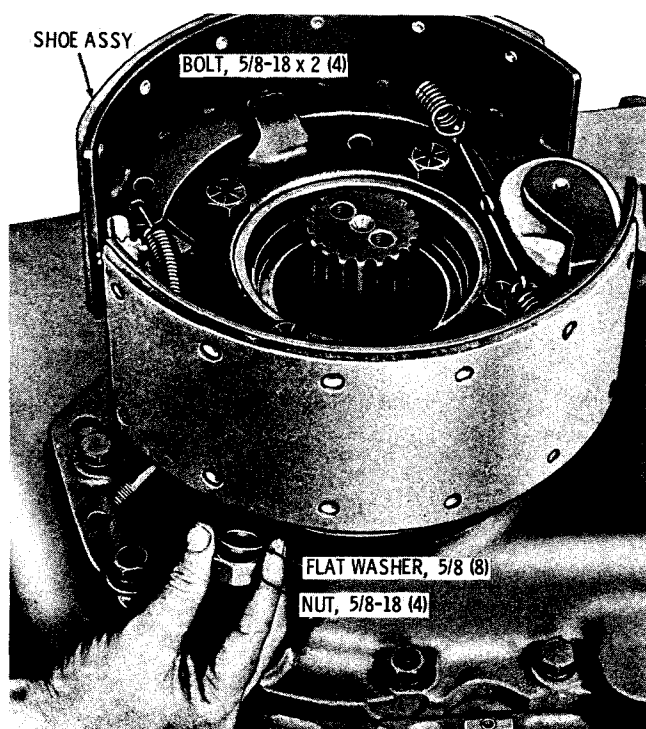

Fig. 7-125. Installing parking brake mounting bolt nuts S1761
(15) Install the brake assembly and retain it with four 5/8-18 x 2-inch bolts, flat washers and nuts. Put the flat washers under the heads of the bolts and under the nuts (fig. 7-125). Tighten the nuts to 134 to 160 pound feet torque.